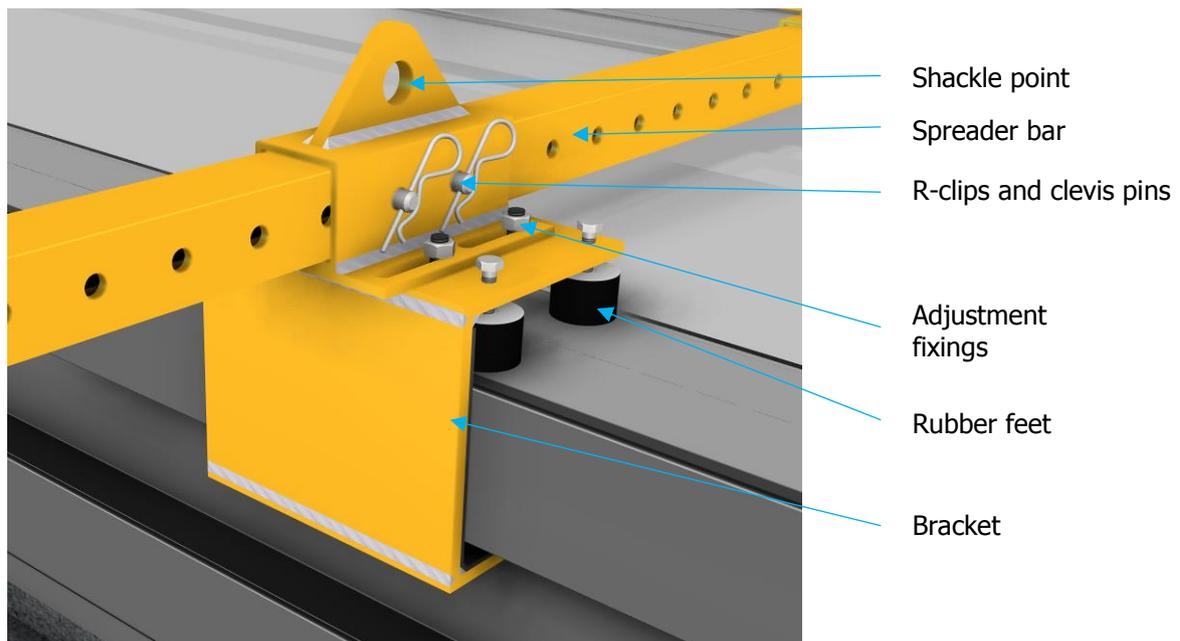

Figure 1 - Lifting bracket
13. Slacken the adjustment fixings on the shackle point bracket (*Figure 1*). Keep the rubber feet in their position to prevent contact between lifting frame and rooflight frame or glass.